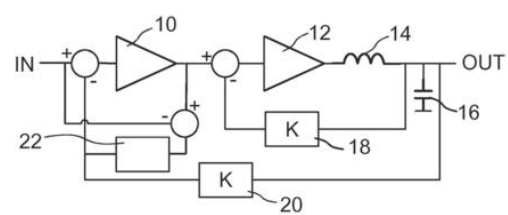

Figure 1: A block diagram from the APC patent application
**Patrik:** Above is a block diagram (see **Figure 1**) from the APC patent application. It shows a globally modulated Class D stage with negative feedback around it. It also shows a small box around the error amplifier, which is the APC circuit.